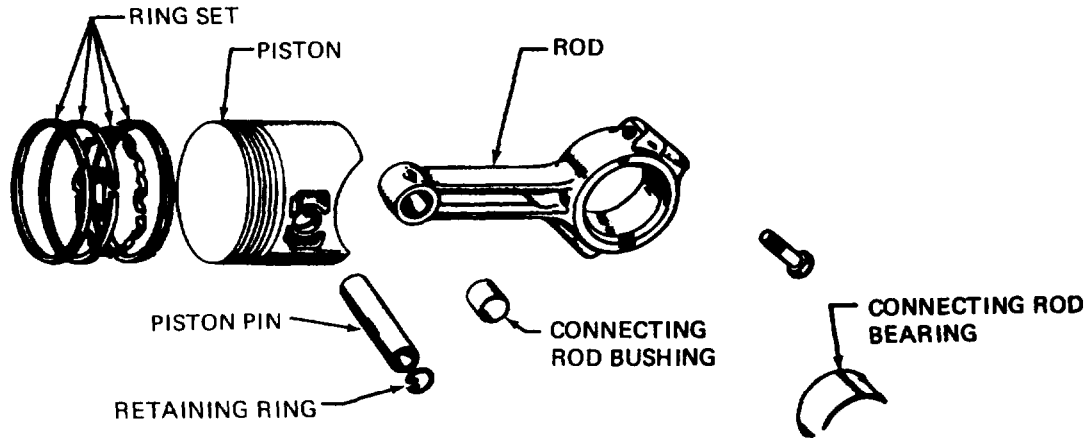

Figure 5-48. Pistons and Rings
- (11) Space each ring gap one third of the way around the piston from the preceding one, with no gap directly in line with the piston pin. The bottom piston ring groove should be fitted with an expander and an oil control ring and the two upper grooves fitted with compression rings. If a chrome faced ring is used, it will be in the top groove. The oil control ring is selected for best performance in regard to the correct unit pressure characteristics.
- (12) The piston is fitted with a full-floating type piston pin. The pin is kept in place by two lock rings in the piston, one at each side. Be sure these lock rings are properly in place before installing the piston and connecting rod in the engine. Refer to Table 5-3 for the correct piston-to-cylinder clearance.
b. Connecting Rods (Figure 5-48).
- (1) The connecting rods should be serviced at the same time the pistons or rods are serviced. Rods must be removed with the piston.